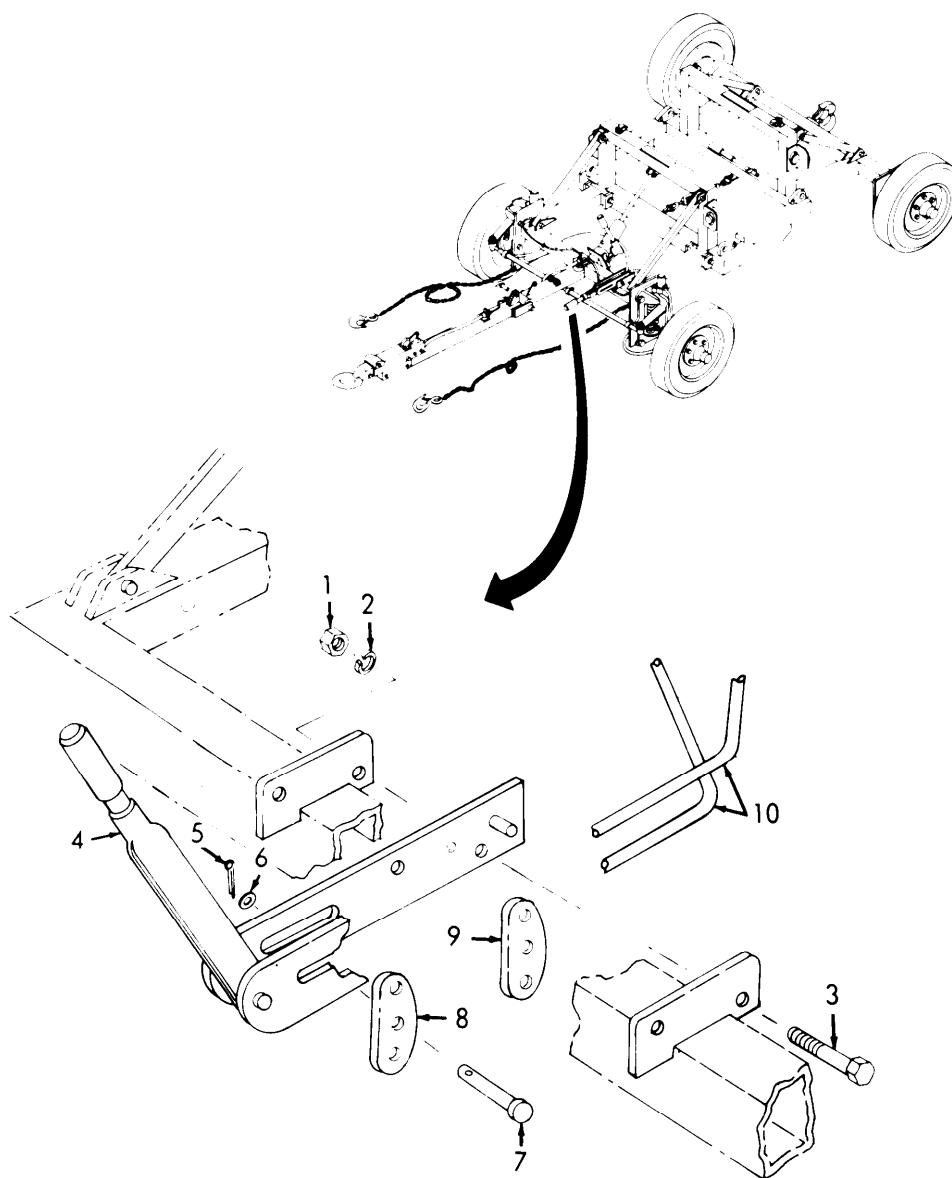

Figure 3-42. Parking Brake Handle, Installation.
- (1) Install both cables (10, Figure 3-42) with attached clamps (8 and 9) to handle assembly (4).
- (2) Install two pins (7), two washers (6), and two cotter pins (5).
- (3) Install handle assembly (4) into position.
- (4) Install two bolts (3), two lockwashers (2), and two nuts (1).